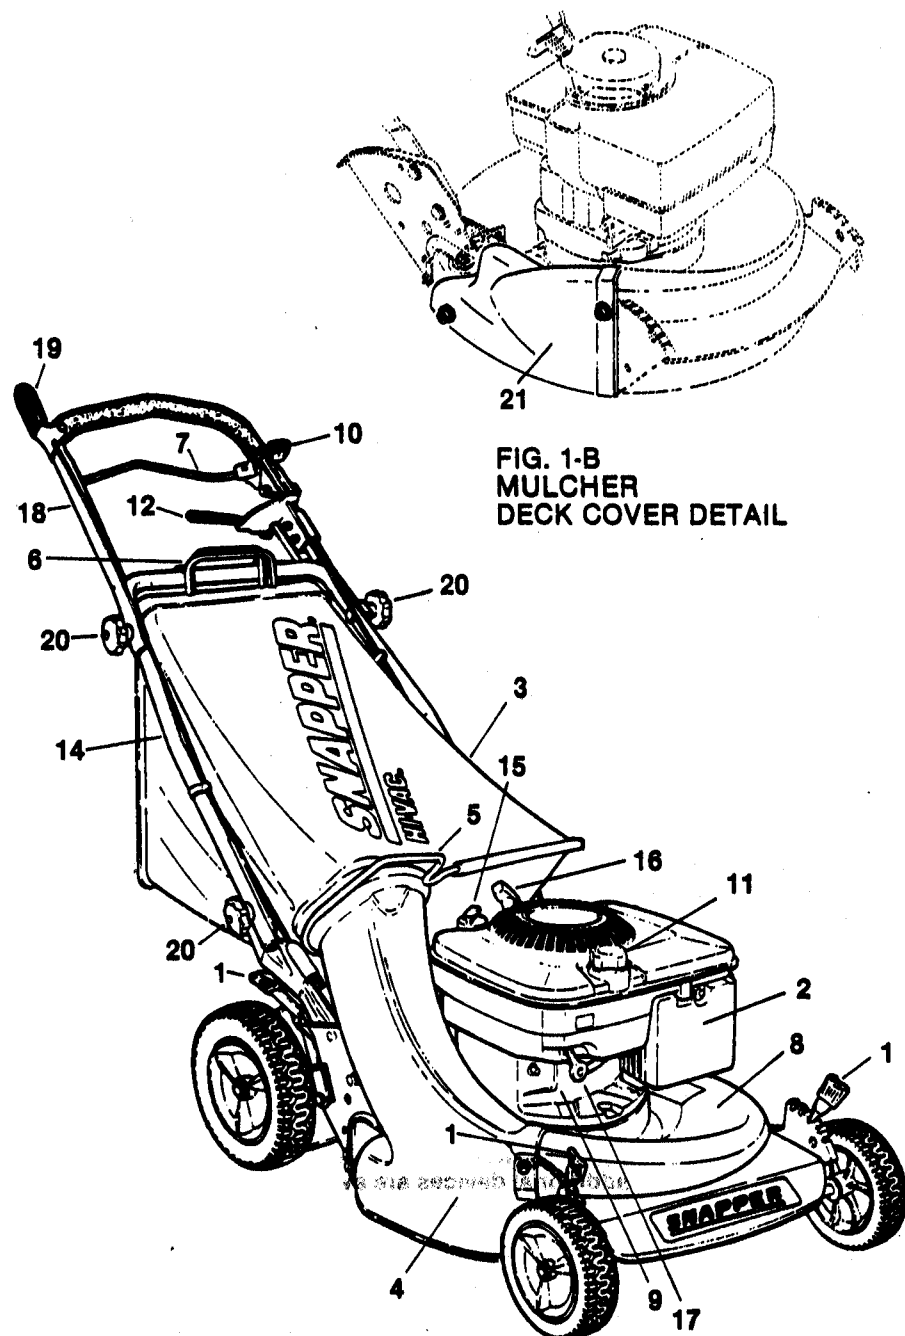

FIG. 1-B
The engine (and blade) is stopped by releasing the **BLADE CONTROL (7)** or by pulling the **ENGINE CONTROL lever (10)** rearward to the **STOP** position. On self-propelled models, releasing the **WHEEL DRIVE control (19)** stops the forward movement of the mower. Refer to FIG. 1 for locations of controls.